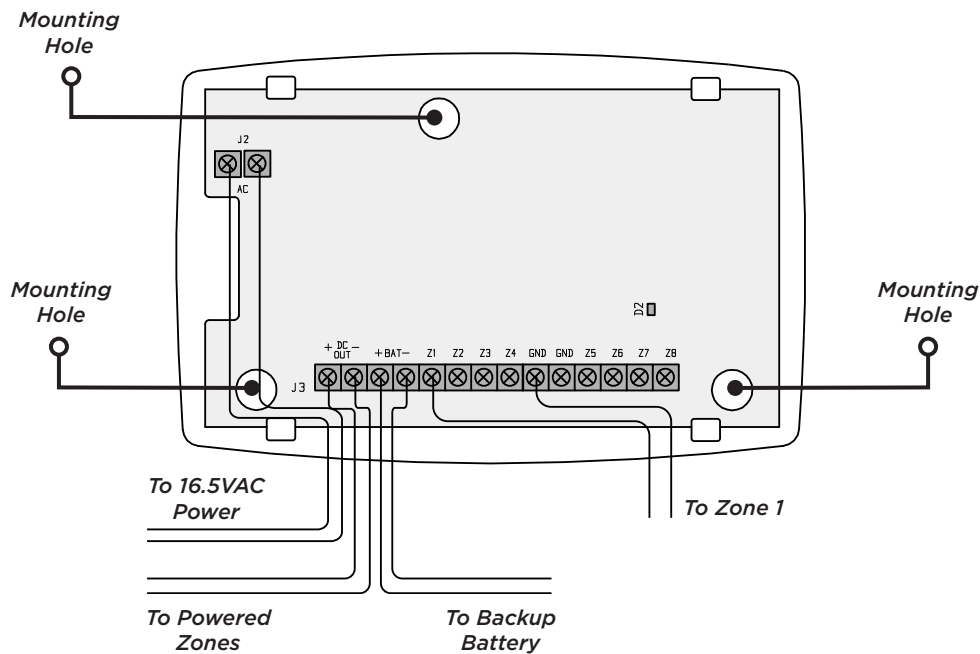

Figure 2: 1158 Zone and Power Wiring
With the 1158's housing cover removed, use the supplied screws to secure the 1158 to a wall or other flat surface. The 1158 PCB has built-in holes to allow you to screw the housing onto a surface without removing the PCB. See Figure 2.
2. Use 18-22 gauge wire to connect a contact to a zone terminal and a ground (GND) terminal. See Figure 2.